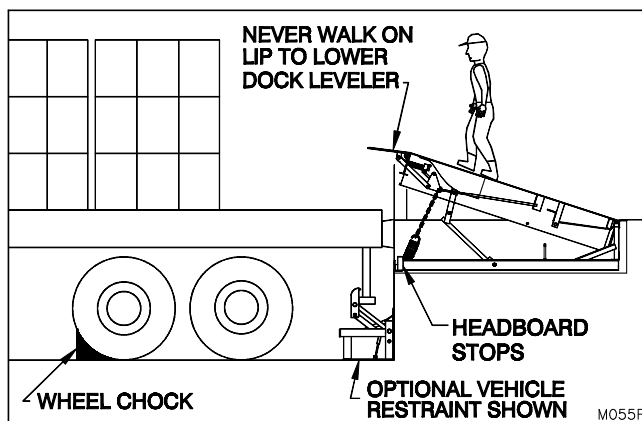

Figure 22: Walk Down the Deck
4. With the deck raised, begin “walking” the dock leveler down until it bottoms out on the deck stops. **NEVER WALK ON THE LIP TO LOWER THE DOCK LEVELER.** (See Figure 22: Walk Down the Deck on page 16)
NOTE: Always be certain that the truck/trailer is parked tight against the face of both dock bumpers and that the truck is locked in place by a vehicle restraint and/or that the truck wheels are chocked (See Figure 22: Walk Down the Deck on page 16) before loading or unloading. All 'air ride' trailers must release the air from the suspension mechanism prior to activating the dock leveler for use.
NEVER WALK ON THE LIP TO LOWER THE DOCK LEVELER ONTO A TRUCK BED. (SEE Figure 22: Walk Down the Deck on page 16) FAILURE TO ENSURE THE LIP CONTACTS THE TRUCK BED MAY RESULT IN DAMAGE TO THE DOCK LEVELER AND/OR THE TRUCK. NEVER USE ANYTHING OTHER THAN THE OPERATOR'S WEIGHT TO LOWER THE DECK FROM THE RAISED POSITION.
NEVER WALK ON THE LIP TO LOWER THE DOCK LEVELER. (SEE Figure 22: Walk Down the Deck on page 16)